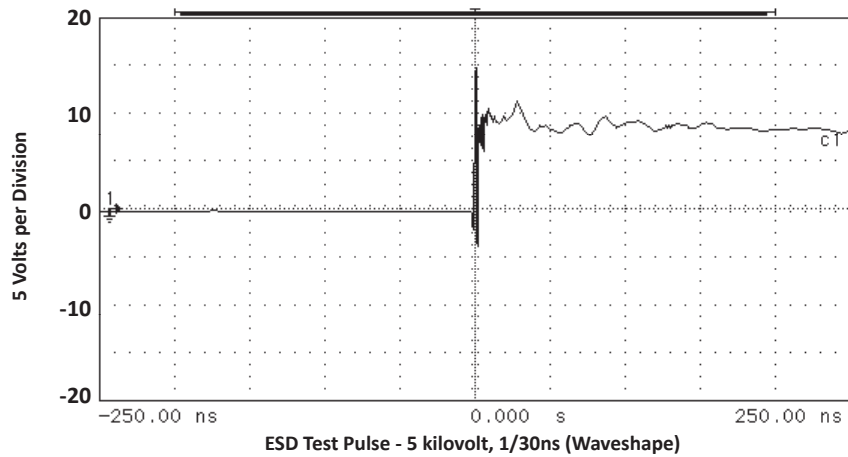

FIGURE 5
- As shown in Figure 5, REF 1 is connected to ground, REF 2 is connected to + V_{CC} and input applies to $V_{CC} = 5V$, $V_{SIGN} = 30mV$, $F = 1MHz$.